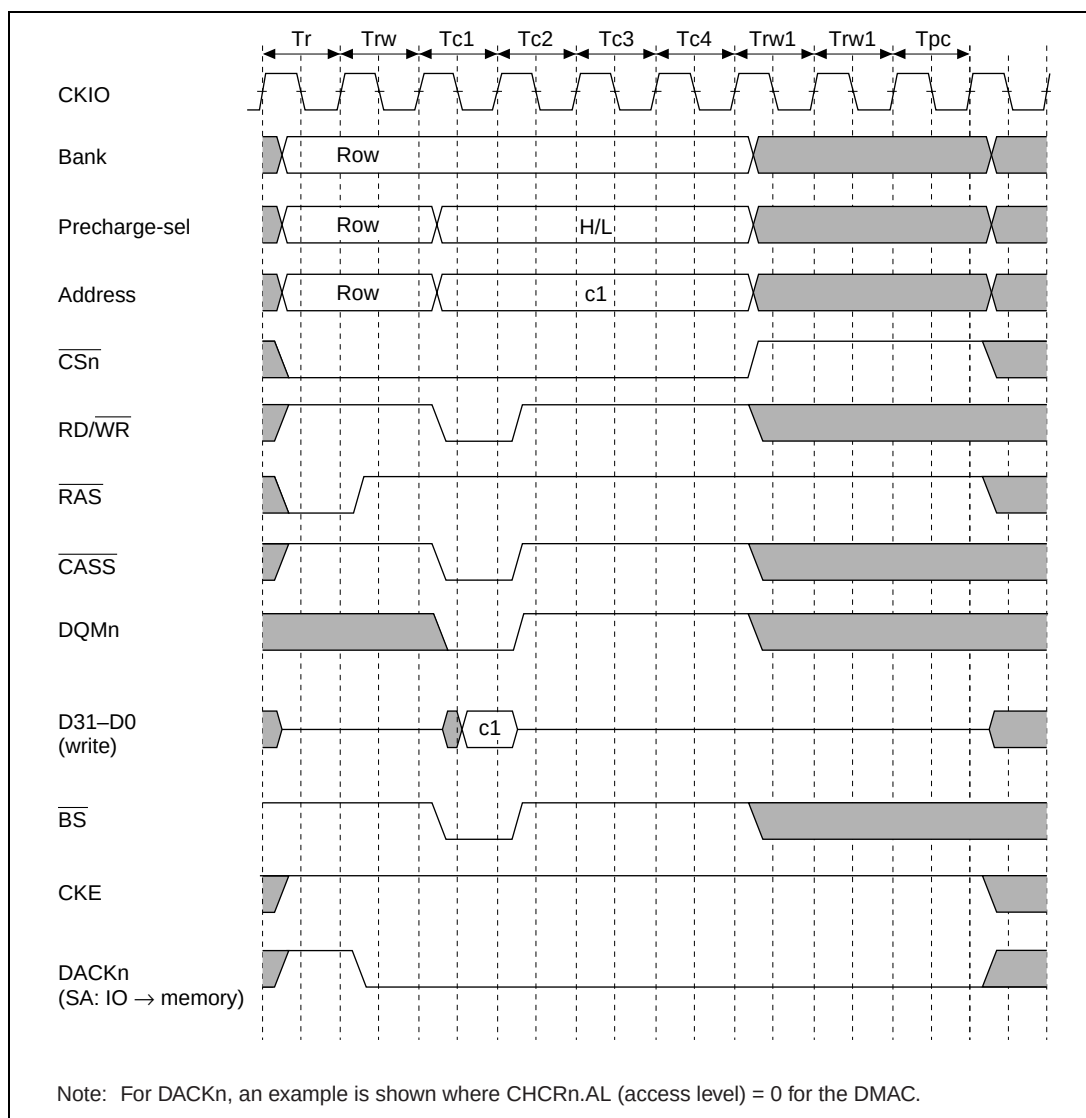

**Figure 13.27 Basic Timing for Synchronous DRAM Single Write**
**Single Write:** The basic timing chart for write access is shown in figure 13.27. In a single write operation, following the Tr cycle in which ACTV command output is performed, a WRITA command that performs auto-precharge is issued in the Tc1 cycle. In the write cycle, the write data is output at the same time as the write command. In the case of a write with auto-precharge, precharging of the relevant bank is performed in the synchronous DRAM after completion of the write command, and therefore no command can be issued for the synchronous DRAM until precharging is completed. Consequently, in addition to the precharge wait cycle, Tpc, used in a read access, cycle Trwl is also added as a wait interval until precharging is started following the write command. Issuance of a new command for the same bank is postponed during this interval. The number of Trwl cycles can be specified by bits TRWL2–TRWL0 in MCR. DACK is asserted two cycles before the data write cycle.